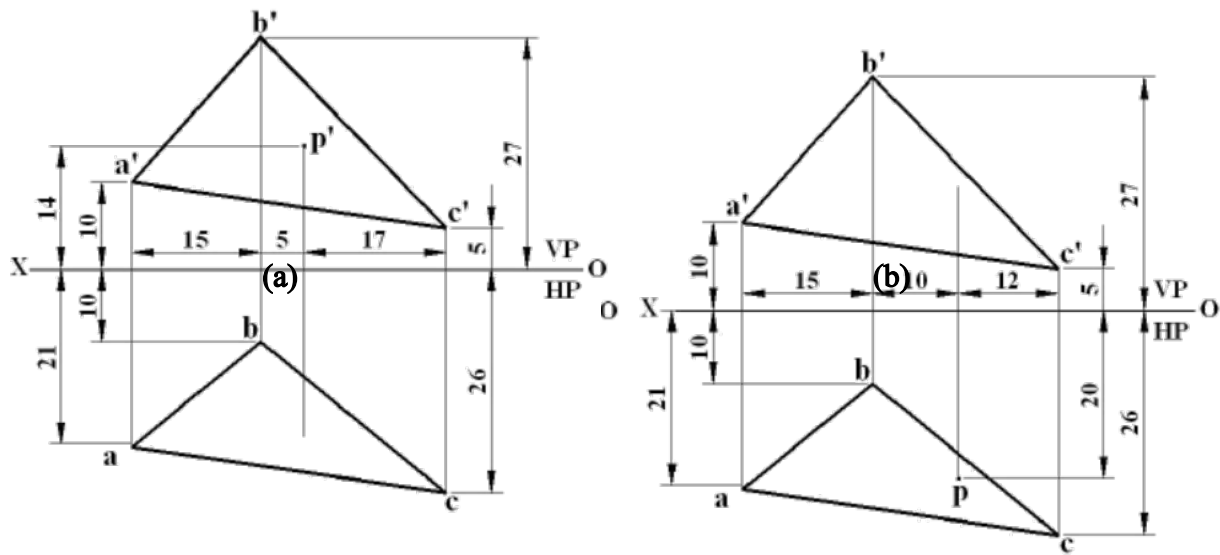

Figure P4.8
8. Complete the orthographic projections a point **P** lying on a triangular plane **ABC** shown in **Figure P4.8**.